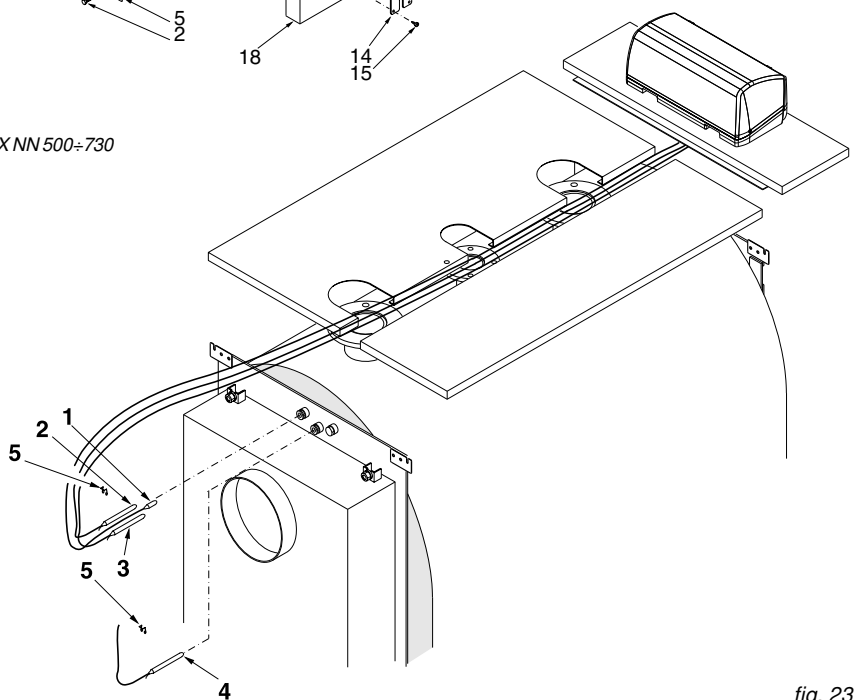

fig. 23
- Fit the panel board to front upper panel (13).
- Fit the upper panel (13), complete with the panel board to the side upper panels (8 & 17).
- Guide the burner plug through the side cable clamp plate (14) on the preferred side and clamp the cable using the cable clamp supplied.
- Fix the side cable clamp plates (14) to the casing side panels (9 & 18).
- L) Insert the thermometer and thermostat bulbs in the bulb holders as shown in fig. 23 and connect the mains, the burner, the pump(s) and any ancillary equipment to the panel board.